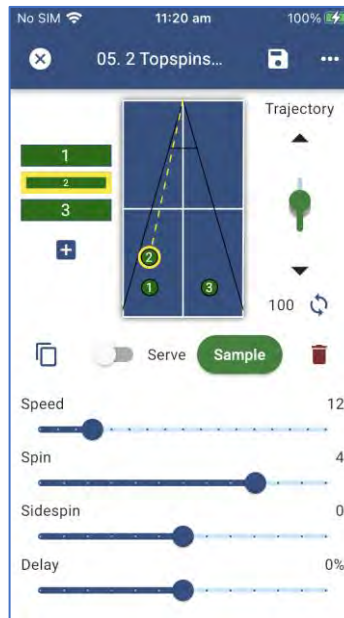

Figure 3-58
3. Now, let's change the order of Ball 1 and Ball 2 by dragging the **Ball Selector** for Ball 2 to the top of the list of Ball Selectors. Your screen should now look like what's shown in Figure 3-58, and you have successfully changed the order of Balls in a Drill.
2. Choose the Ball that you'd like to duplicate by touching the corresponding Ball Selector. (Figure 3-58)